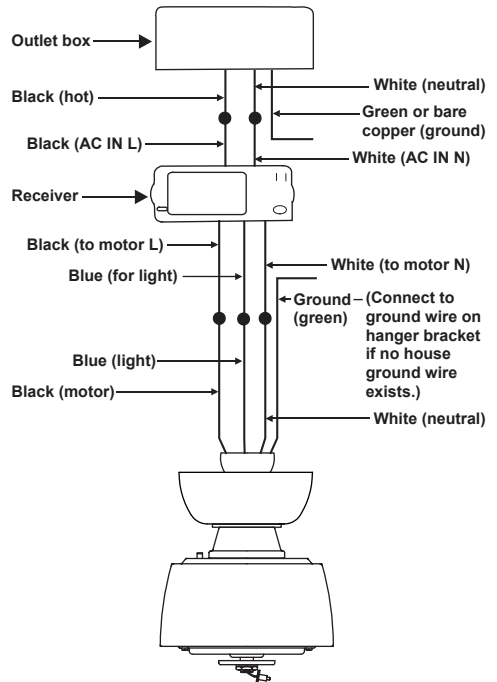

Figure 10
Step 2. (Fig. 10) Motor to Receiver Electrical Connections: Connect the Black wire from the fan to Black wire marked "TO MOTOR L" from the receiver. Connect the White wire from the fan to the White wire marked "TO MOTOR N" from the receiver. Connect the Blue wire from the fan to the Blue wire marked "For Light" from the receiver. Secure wire connections with the plastic wire nuts provided.
Step 3. (Fig. 10) Receiver to House Supply Wires Electrical Connections: Connect the black (hot) wire from the ceiling to the black wire marked "AC in L" from the receiver. Connect the white (neutral) wire from the ceiling to the white wire marked "AC in N" from the Receiver. Secure the wire connections with the plastic wire nuts provided.
Step 4. (Figure 10) If your outlet box has a ground wire (green or bare copper) connect it to the fan ground wires; otherwise, connect the hanging bracket ground wire to the hanger ball ground wire. Secure the wire connection with a plastic nut provided. After connecting the wires, spread them apart so that the green and white wires are on one side of the outlet box and black and blue wires are on the other side. Carefully tuck the wire connections up into the outlet box.